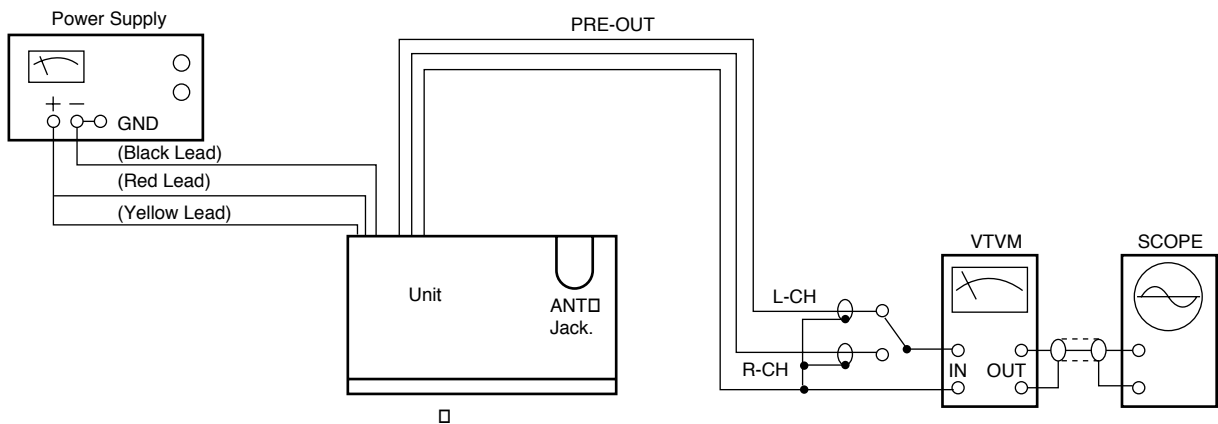
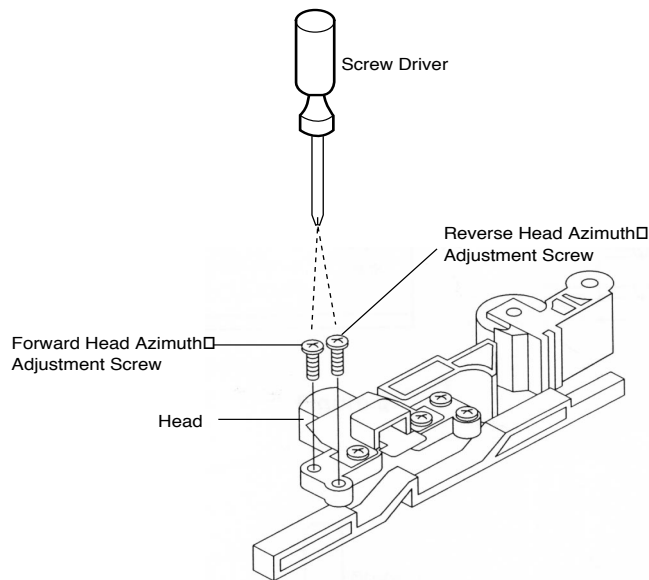

Figure 6.
Figure 7.
- (1) Before this adjustment, clean PLAYBACK head surface.
- (2) For this adjustment, use test tape MTT-114.
- (3) VOLUME.....Center
- (4) BALANCE .....Center
- (5) TREBLE/BASS .....Center
- (6) Connect as shown in figure 6.
| P.B. Head Adjustment | L-CH, R-CH, VTVM and Scope See figure 6. | Playback (FWD & REV) the TEST TAPE MTT-114 | Adjust the azimuth adjusting screw (in figure 7). | MAX. Output both channels on FWD and REV PLAY | After this adjustment, lock the screw with paint. |